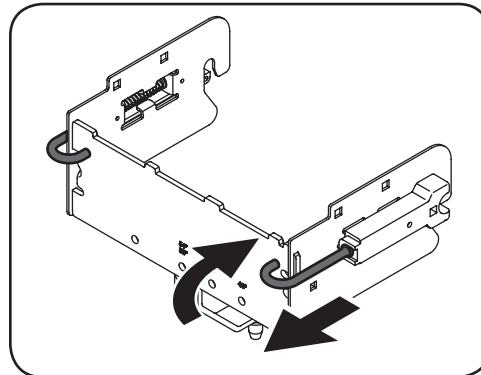

Figure 2-4
2. Pull back j-pins and lock open by twisting them inward slightly and letting them rest on the back of the rear support bracket. See Figure 2-4.